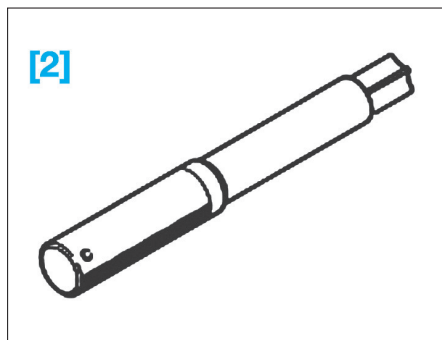

FIG. 2
- [2]. Mandrin de centrage ref. 3190A (Fig.2).